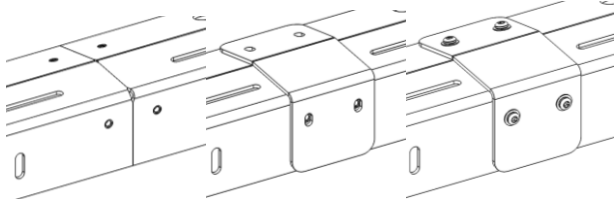

Figure 6: Side Rail Assembly
4. Assemble the left and right-side rails using the side rail brackets to combine the front, middle and rear rails (See Figure 6).